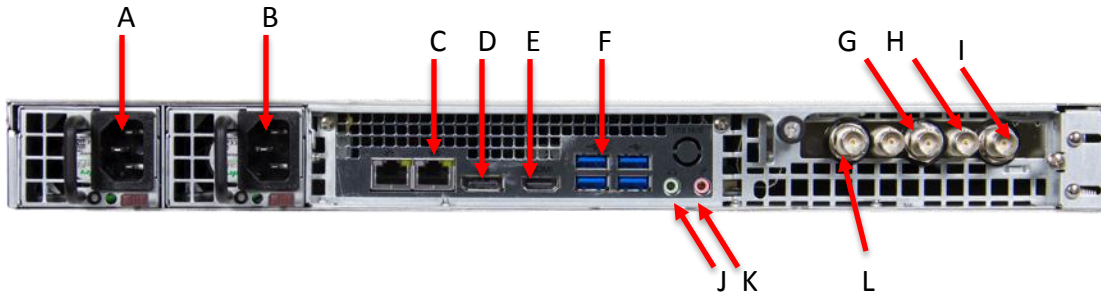

Figure 57
Additionally, it has a redundant power supply. It has a redundant power supply. Thus, if the one power supply fails **(A)**(Figure 57), the other power supply **(B)** will keep running in order to keep the TVU tTransceiver powered up.
In order to use the dual power supplies properly, both AC power supplies must be plugged into both of the AC power adapters on the back panel of the TR3750 **(A)(B)**(Figure 57). When one power supply fails, the TVU Transceiver will make a continuous beeping sound to alert users of the failure.
Because of the dual outputs, the TR3750 requires some additional set-up. Normally, users would only attach one SDI cable to the one SDI output on the transceiver unit **(G)**(Figure 57). However, this unit has a second SDI output **(I)** on the back connections panel as seen in Figure 57. In order to access the second SDI output, simply plug an additional SDI cable into that outer connection.
The TVU Receiver GUI 1 will display the output plugged into the middle connection on the transceiver (G)(Figure 57). The TVU Receiver GUI 2 will display the output plugged into the outer SDI output connection on the transceiver (I)(Figure 57). Both GUIs can be open at the same time in order to monitor and control the transmission of both TVU Transmitters simultaneously (Figure 59).